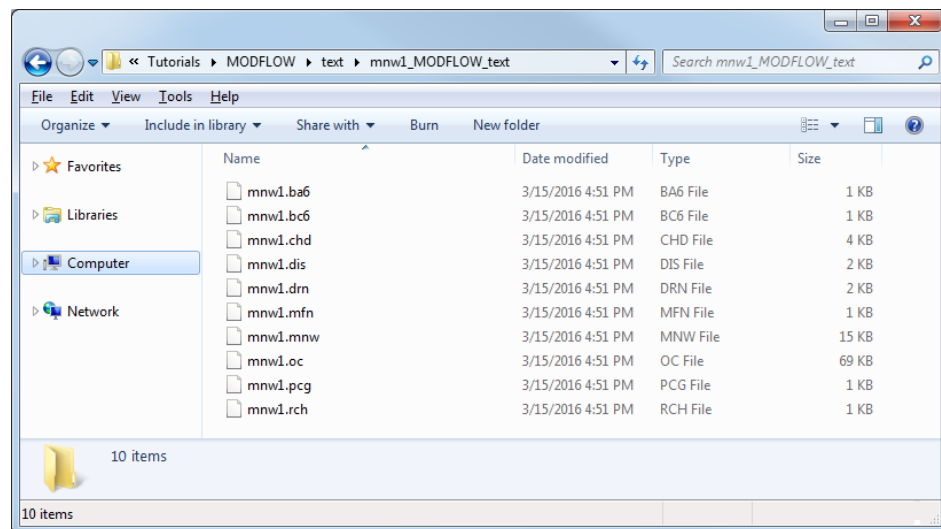

Figure 7 Native text MODFLOW files saved From GMS
2. Browse to the *Tutorials\MODFLOW\text\mnw1_MODFLOW_text* directory to bring up the MODFLOW native text files (Figure 7).